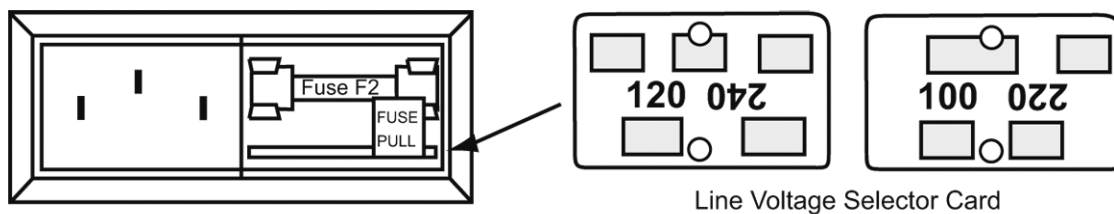

Figure 3-1 Line Voltage Selector on the rear of the 340 VGC
Verify that the line voltage selector card displays the line voltage value of the available local AC line voltage. If the card does not display the correct line voltage value as shown in Table 3-1, perform the following procedure and refer to Figure 3-1.
4. Reinsert the card so that the correct line voltage (100, 120, 220, or 240V) as shown in Figure 3-1 is readable from the rear of the VGC.